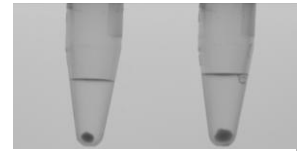

Fig. 1: recommended pellet sizes:
- 50 – 200 µL of liquid particle containing sample to reach a pellet size of app. 2 mm after centrifugation (see fig. 1)
3. Control the pellet size. Pellet size should not exceed 2 mm in diameter (see fig. 1).